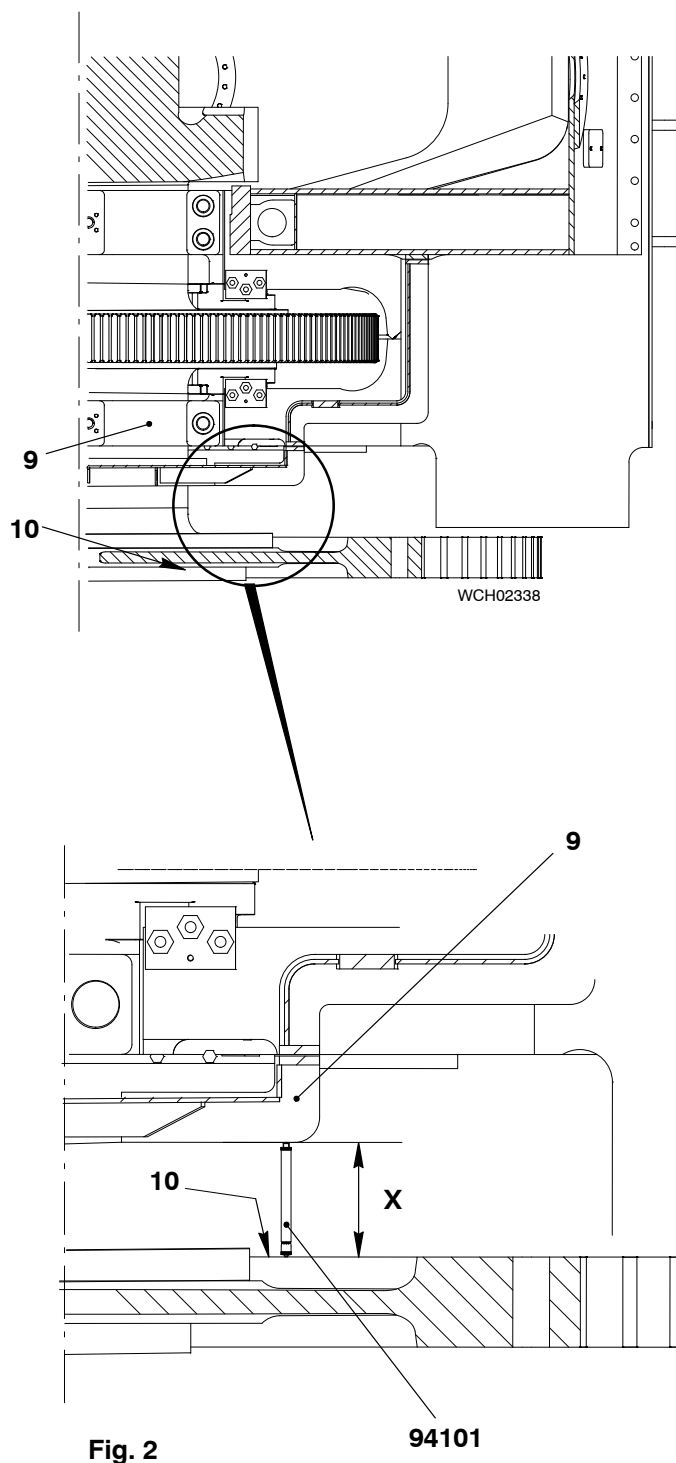

Fig. 2
- 4) Use the micrometer (94101) to measure the distance between the crankshaft flange (10, Fig. 2) and the oil baffle (top part) (9).
- 8) Start the engine in the direction ASTERN to move the crankshaft fully forward. The crankshaft must touch the thrust pads (7).
- 11) Use the micrometer (94101) to measure the distance between the crankshaft flange (10, Fig. 2) and the oil baffle (top part) (9).